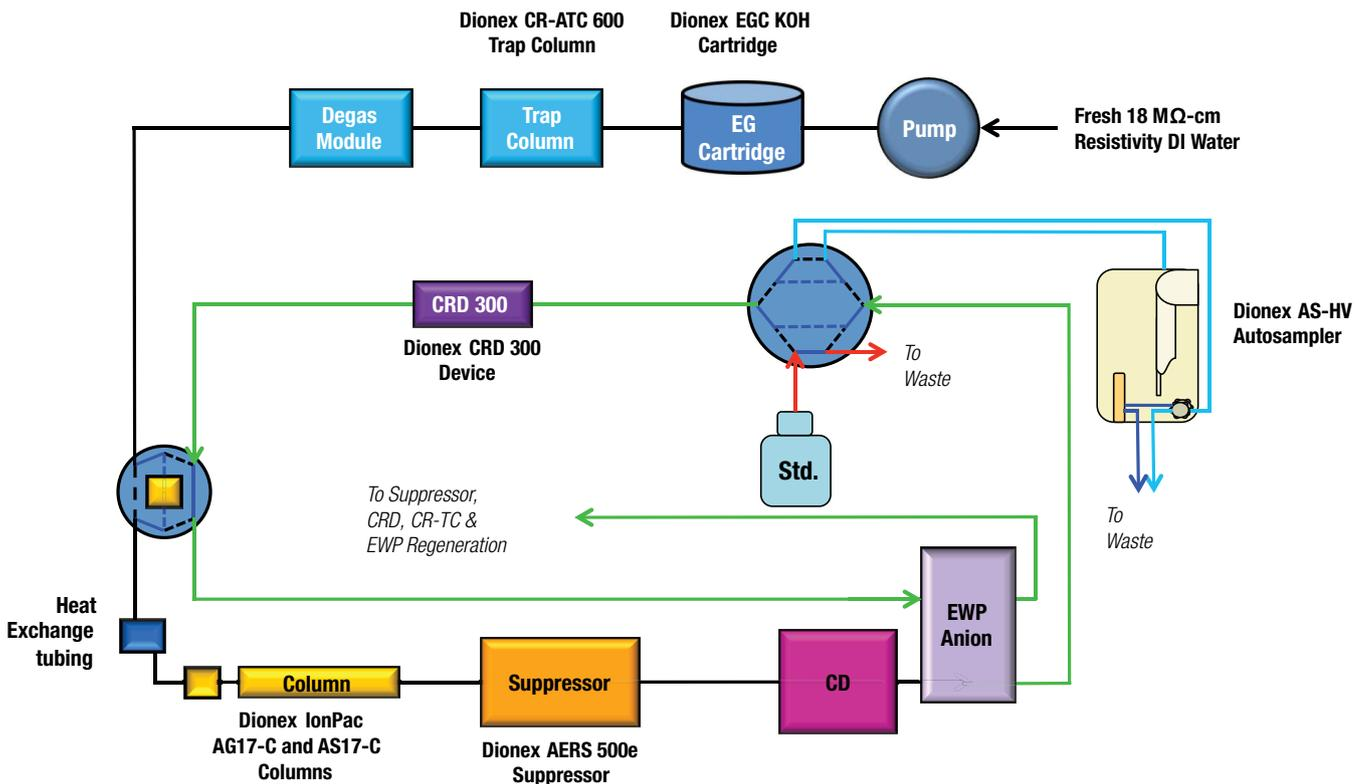

Figure 1. Flow diagram of Dionex Integrion HPIC system for trace anion determinations.
To set up this application, connect the Dionex AS-HV Autosampler and the Dionex Integrion HPIC system, the Dionex EWP Electrolytic Water Purifier, and Dionex AutoPrep module as shown in Figure 1. The flow path is similar to that of most IC systems, from the pump to the CD Conductivity Detector.
5. Complete the installation according to the Figure 1 flow diagram.
Plumb the Dionex AS-HV Autosampler in Pull mode through the waste and sampler ports in the Dionex AutoPrep valve according to Figure 1 and the autosampler Operator's Manual.¹